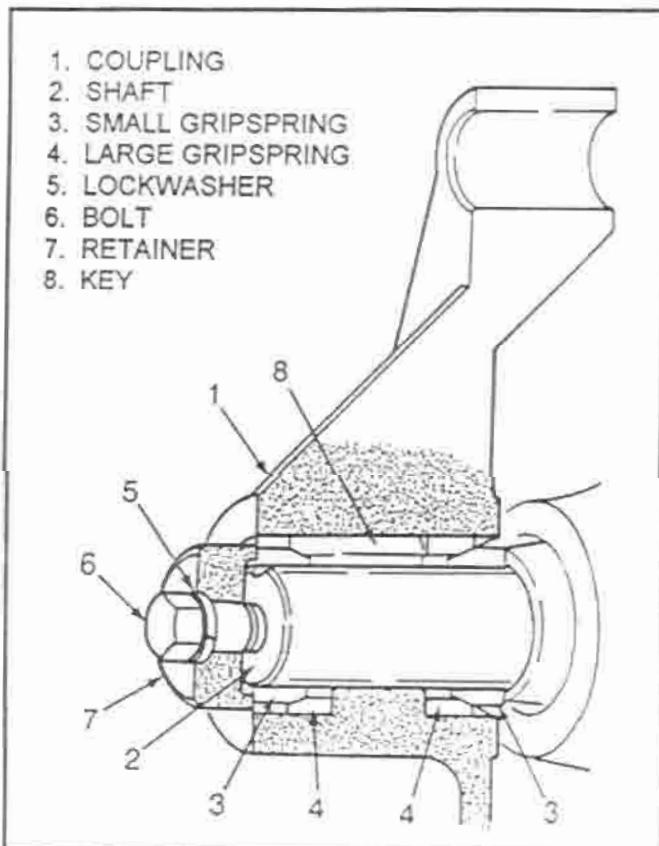

Figure 6-2. Grip spring installation
c. Press inner race of bearing (82) onto non-drive end of shaft (32).
f. Place ball (98) into stator as shown; coat o-ring packing (100) with clean compressor oil and place on end of stator (15).
g. Assemble gasket (99) and adapter (7) on register of drive end cover (88) making certain holes are aligned. Carefully assemble this group of parts into drive end of stator with sealing washers (96) and bolts (95).
h. Coat o-ring packing (90, 93) with clean compressor oil. Assemble packing (90) and sleeve (92) on shaft.
i. Assemble oil seal (89) into oil seal cover (86) with sealing lip facing drive end cover. Coat o-ring packing (93) with clean compressor oil and install on oil seal sleeve (89); assemble oil seal sleeve into oil seal cover (86) with packing end toward oil seal (89). Assemble gasket (99) and oil seal cover (86) over shaft extension, carefully, making certain mounting holes are aligned; secure oil seal cover (86) to end cover (88) with lock washers (85) and cap screws (84).
j. Assemble gripsprings (31) on each side of drive coupling (8) with small end of taper facing away from compressor on both shaft halves of the gripsprings. Refer to Figure 6-2. Assemble the gripsprings as follows:
1. Install smaller gripspring (3) on shaft (2) with beveled edge out.
2. Position larger gripspring (4) over gripspring (3) so that the beveled edges meet.
3. Install key (8) on shaft. Slide coupling (1) on shaft and over key and gripsprings until it seats.
4. Position second larger gripspring (4) in coupling with beveled edge facing outward.
5. Install second smaller gripspring (3) on shaft. Be sure beveled edges of gripsprings (3 and 4) match.
6. Position gripspring retainer (7) on shaft. Secure gripspring retainer (7) with lock washer (5) and special bolt (6).